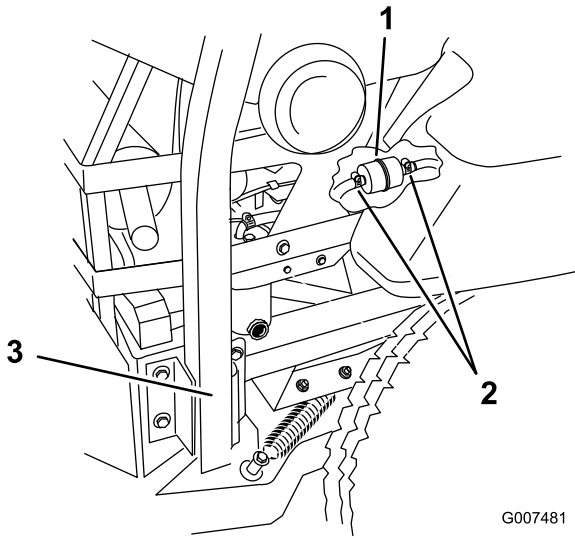

Figure 53
5. Loosen the two hose clamps and disconnect the fuel lines from the fuel filter (Figure 53).